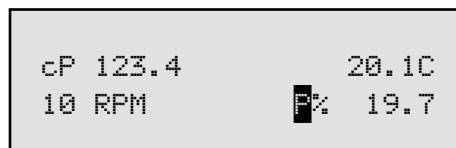

Figure II-20
1. Pressing the PRINT key once (for less than three (3) seconds) will result in the printing of one standard print line.
2. If the PRINT key is pressed and held for more than three (3) seconds, the DV-II+Pro will then begin *continuous* printer output at a print rate interval selected via the Options menu (see Section IV.3.3). The display will show a flashing P in front of the % sign. See Figure II-20.